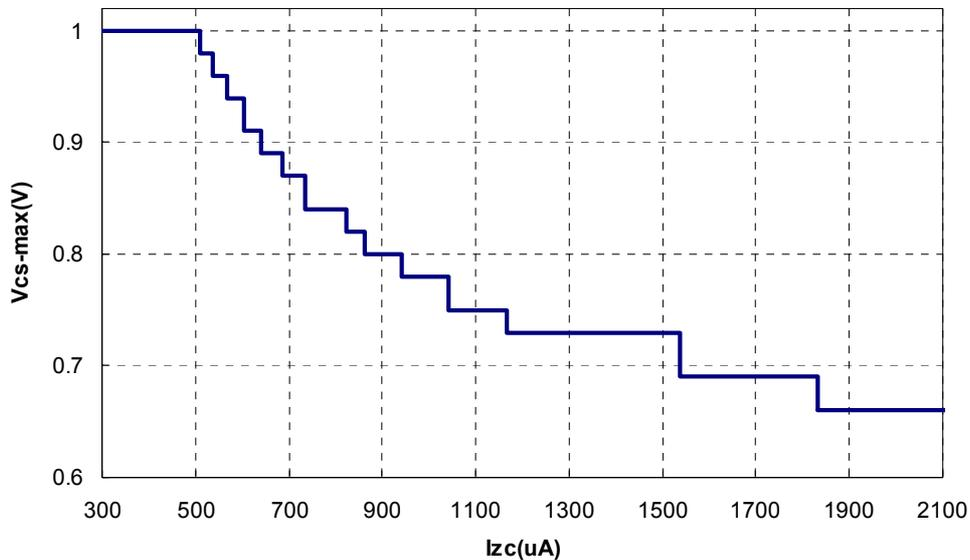

Figure 5 Maximum current sense limit versus ZC current during MOSFET on-state
In (8), V_{BUS_S} is the voltage from which the maximum output power is desired to be maintained at constant level. The corresponding maximum current sense voltage in relation to the ZC current is shown in Figure 5.